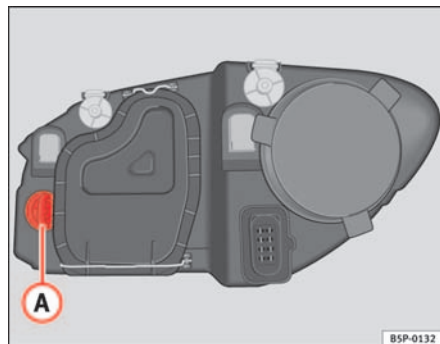

Fig. 181 Turn signal lamps
- Rotate the lamp holder ⇒ fig. 181 **A** to the left and pull.